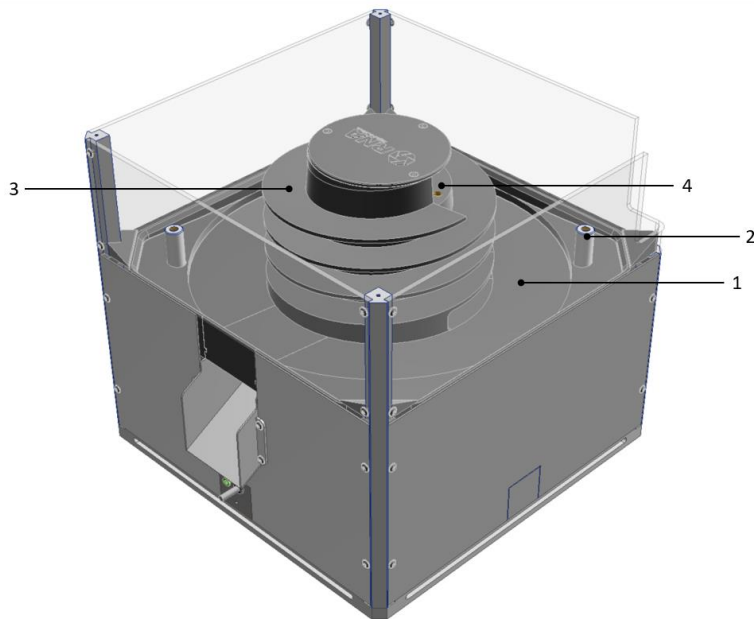

Figure 2: ROTU M without tooling
Figure 2 shows ROTU M without tooling. The materials to be conveyed are fed into the base (1) of the ROTU for storage and then travel up the material-independent spiral (3) towards the tooling. Each tooling is fastened to the four support rods (2) by means of four M8 screws supplied. Two en-sat bushings (4) are located on the inner helix for the attachment of further, material-specific arrangement elements by means of M8 screws.